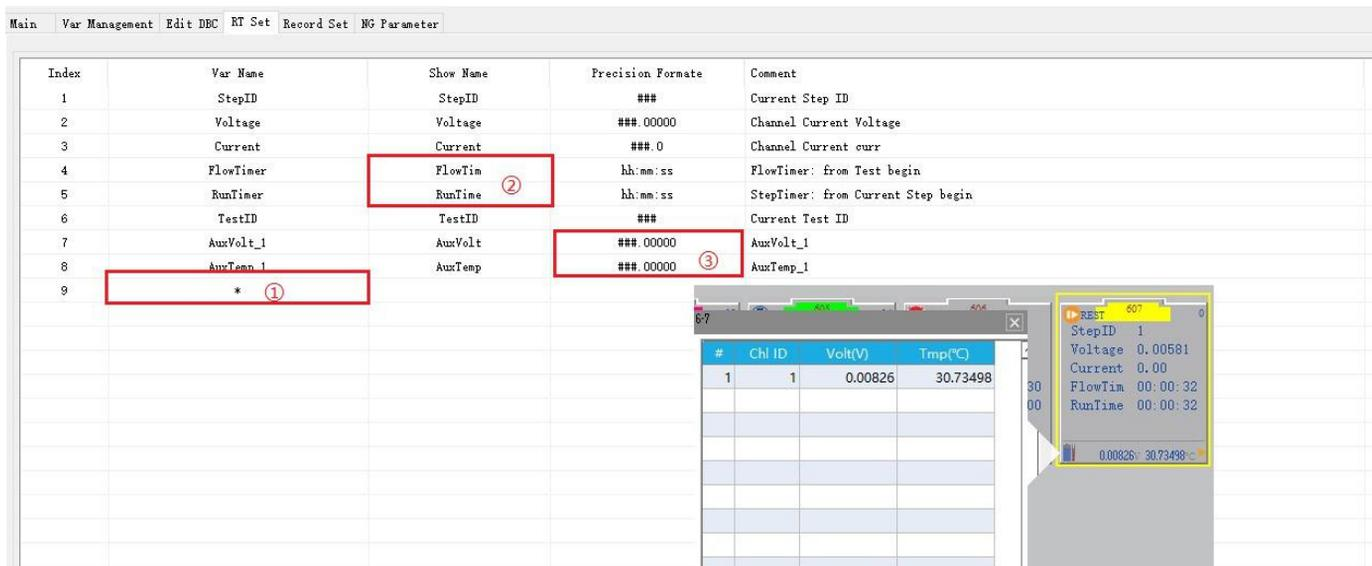

Figure 8-12 Display Setting
- ① Double-click to add display variables, double-click or select in the Select variables interface and confirm.
- ② The name displayed on the software channel icon
- ③ The precision format is the data format to be displayed on the client interface. That is, the number of decimal points.
- The Aux data must be bound to the Aux machine first, meanwhile, the Aux data must be added to the display setting page. The Aux data can be seen above the channel. If multiple Aux machines are bound, the Aux data can be displayed, as shown in Figure 8-12.